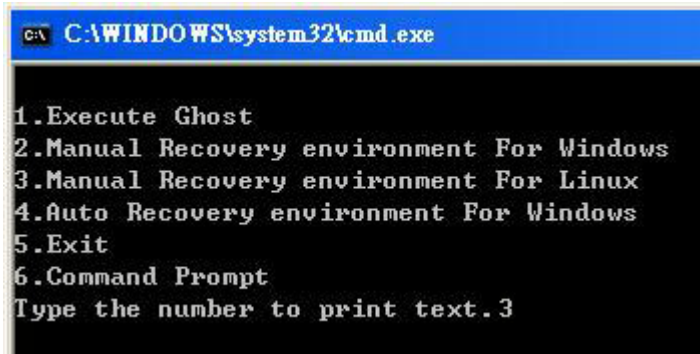

Figure C-30: Manual Recovery Environment for Linux
Step 4: **Build the recovery partition.** Press any key to boot from the recovery CD. It will take a while to launch the recovery tool. Please be patient. When the recovery tool setup menu appears, type <3> and press <Enter> (**Figure C-30**). The Symantec Ghost window appears and starts configuring the system to build a recovery partition. After completing the system configuration, press any key to reboot the system. Eject the recovery CD.